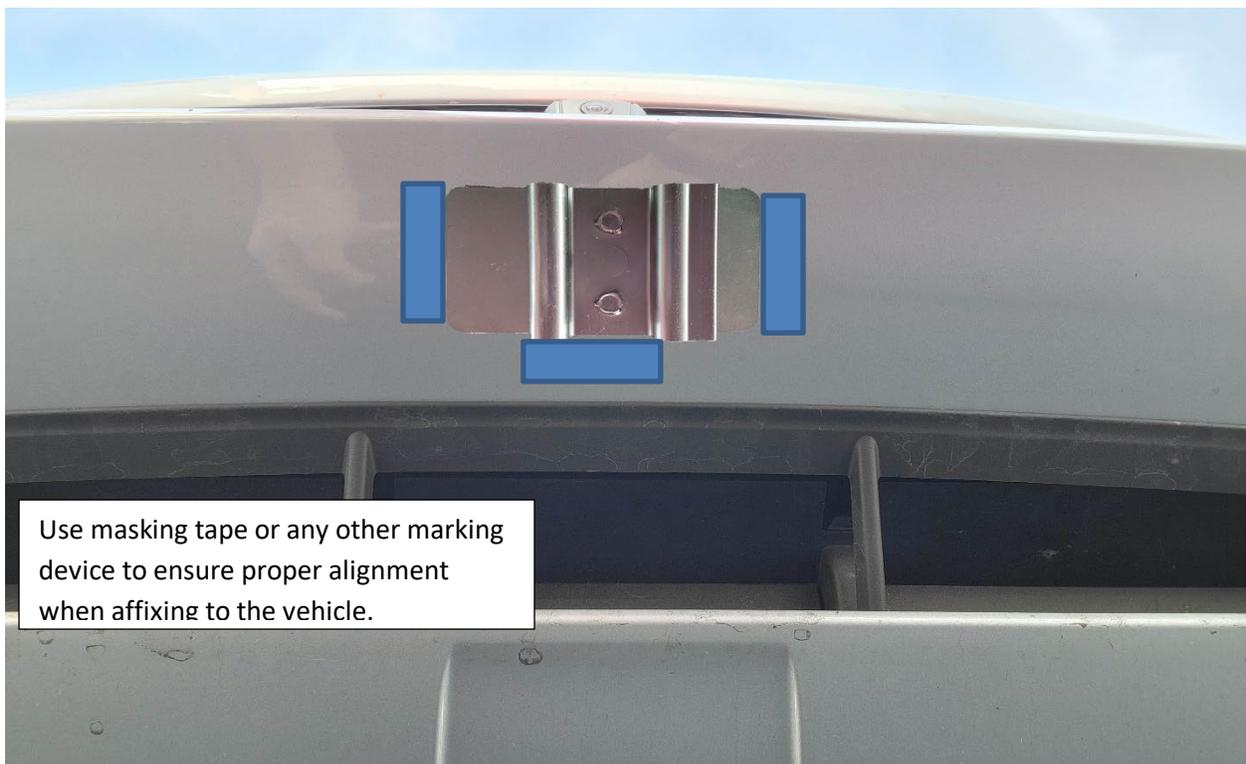
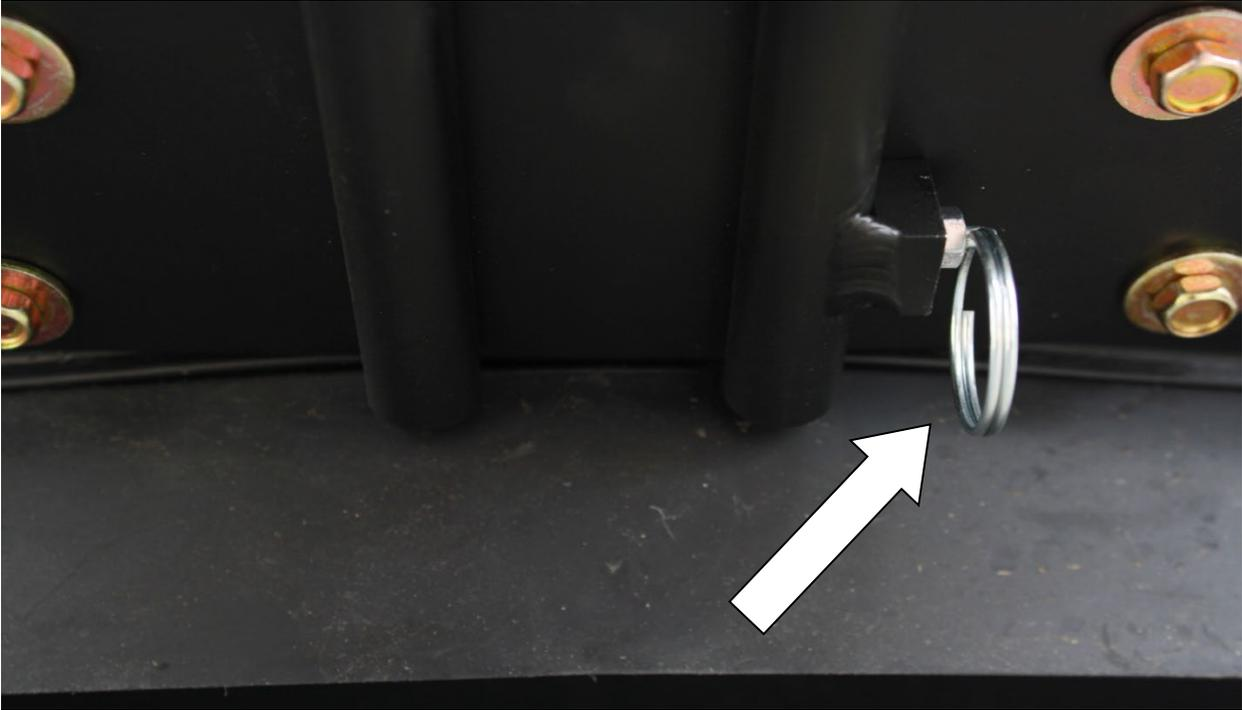

Fig 4
Fig 5
Step 7: Slide the license plate rods into the two tubes located on the base plate. Slide the rods into the tubes until the rods hit the pull pin. Simply pull the ring on the pull pin and advance the rods. Release ring and continue to advance rods until the pull pin locks into place. **NOTE: The rods and spring-loaded pull pin are required to be sprayed periodically with WD-40 or any other silicone type spray lube. Failure to do so could result in either the failure of the pull pin or the rods becoming difficult to remove or reinsert. Note: In harsh environments, such as areas where roads are either salted or sanded in the winter, spraying of the rods and pull pin should be performed on a regular basis. Failure to provide this maintenance may void your warranty.** See figure 4. On some occasions the license plate may require a little adjustment to level. Simply grab frame at arrows (See figure 5) and rotate. If the plate is high on left or right side, rotate high side down slightly and release. Repeat as necessary. Once leveled plate will remain level.